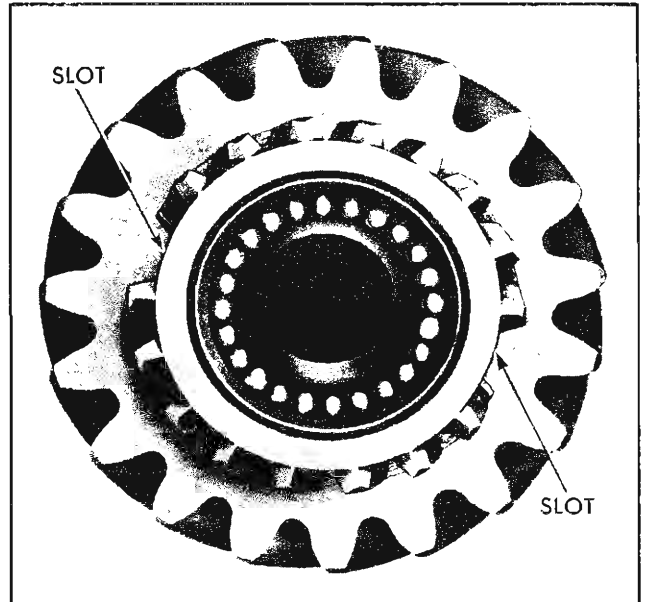

Fig. 7-29 Clutch Gear Needle Bearings
Place some cup grease in the mainshaft pilot hole of the clutch gear and install 26 rollers and small spacer. Then install the large spacer and 28 rollers (Fig. 7-29).
**CAUTION:** Be sure that tangs of synchronizer ring are aligned with mainshaft splines (Fig. 7-20) before installing mainshaft and that clutch gear slots (Fig. 7-29) are properly aligned with larger tangs on synchronizer ring.